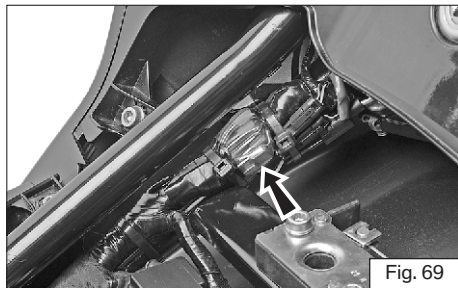

Fig. 69
- ◆ Spare fuse for the each of the fuse is located inside the fuse box (A) and as well as in the wiring harness (B) below the seat latch of pillion seat (ref. Fig. 69).